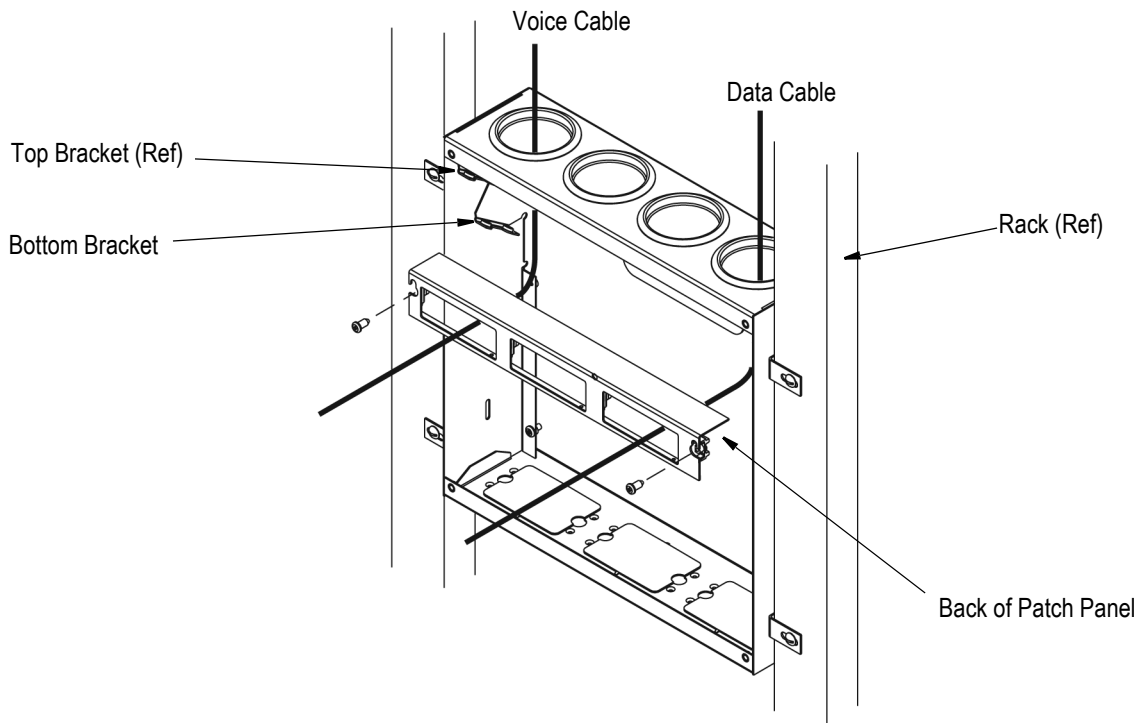

Figure 3
2. Using two of the four mounting screws, mount the patch panel onto the bottom bracket of the SCS enclosure. Refer to Figure 3. If a starter panel is being used, subsequent patch panels should be installed below the starter panel.
1. Separate the voice (telephone distribution) and data (computer networking) cables, and insert them through the cable hole plugs of the SCS enclosure. It is recommended that the voice cable be located on the left and the data cable on the right of the SCS enclosure. See Figure 3. Allow a minimum of 46 cm [18 in.] of excess cable inside the SCS enclosure.